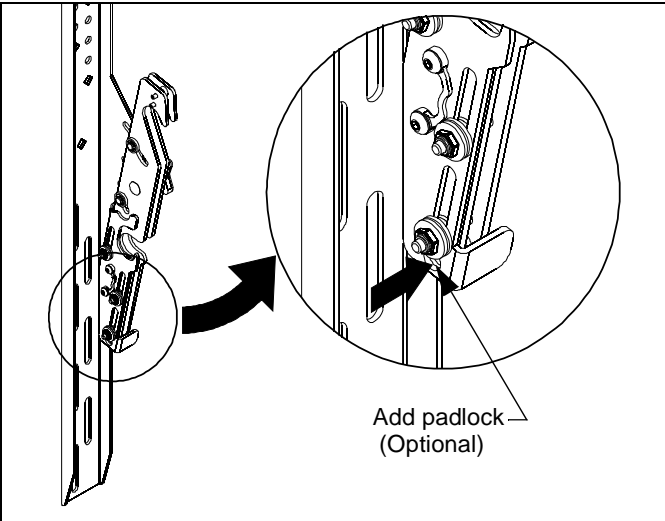

**Figure 10**
1. Turn upright bracket knobs to left to loosen tilt. (See Figure 10)
3. Lock at desired tilt by turning upright bracket knobs to right to tighten. (See Figure 10)